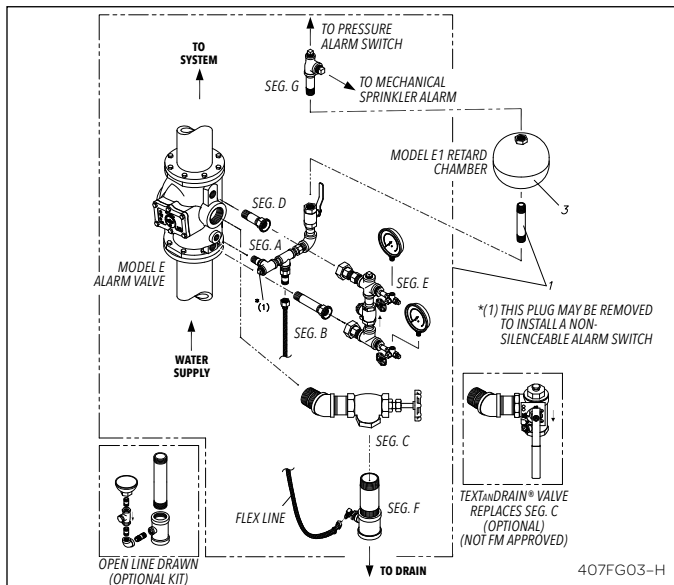
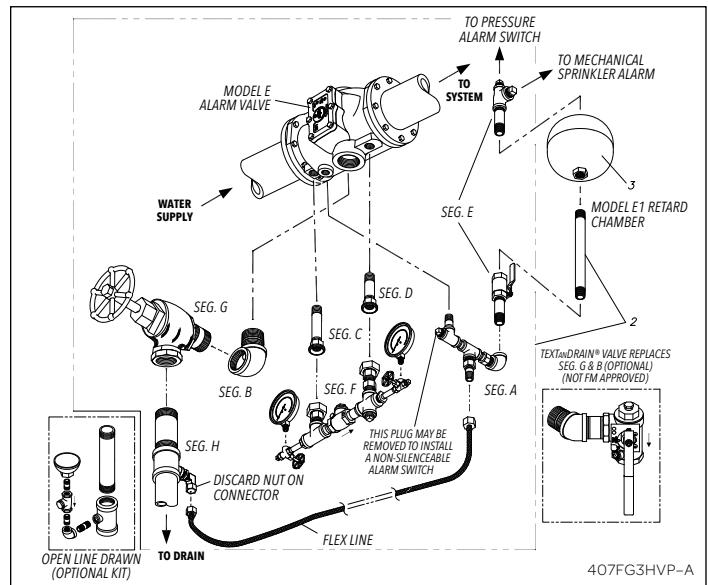

Fig. 3 – Variable Pressure Vertical Installation
Fig. 5 – Variable Pressure Horizontal Installation
7. Install Segment "F" leak tight by wrenching on the 2" (50 mm) tee. Orientate the tube fitting towards the back of the alarm valve. Connect Item 26 (alarm line drain port) to Item 27 in the drain line using the flex tubing provided (Item 11). Note: the tubing should be free of kinks. Note: An open line drain kit segment is optional, to be purchased separately, as a replacement to seg. F (Fig. 3) and Seg. H (Fig.5).
• **Horizontal Installation (Figs. 5 & 6 & 8)**
Follow a sequence similar to that given above for vertical installation and refer to Figs. 5 and 6 for illustration.
The movement of Clapper (4) on Hinge Pin (8) uncovers the groove in Seat (3) and allows water to flow through the groove into the Alarm Line Outlet and to the Alarm Line, Fig 5.
Variable Pressure (Figs. 3 and 5)